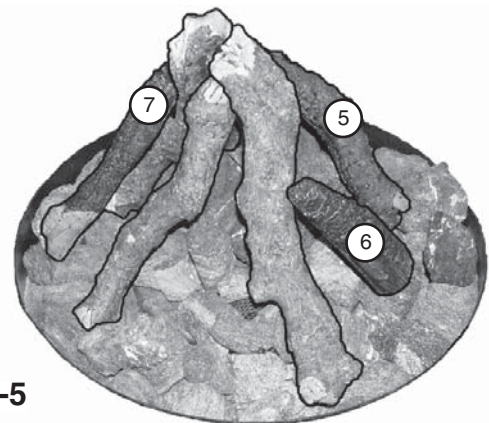

Fig. 16-5
2. Once you have a stable set of logs to use as a "teepee" frame, place the other logs similarly as desired (see Fig. 16-5).